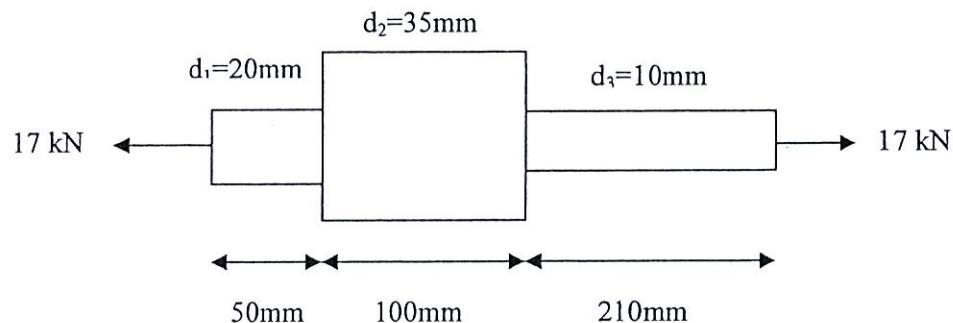

Figure A1(c) / Rajah A1(c)
- CLO1 (c) A copper bar as shown in Figure A1(c), has been imposed to 17kN tensile load. If the Modulus of Elasticity of copper is 150MPa, calculate: